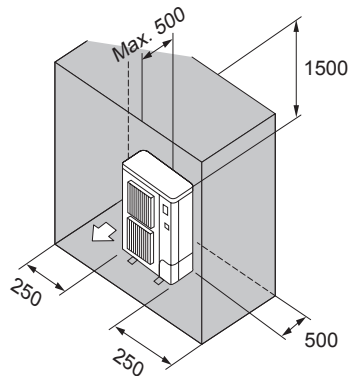

Fig. 3-11
- Obstacles at rear, sides, and above only (Fig. 3-11)
(3) When installing multiple outdoor units (Refer to the next page)